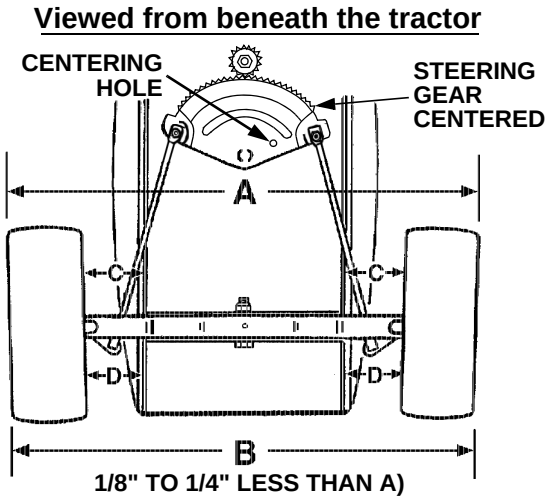

Figure 6-4
The front wheels should toe-in approximately 1/8 to 1/4 inch, as measured across dimensions A and B shown in Figure 6-4.
1. Check the steering gear to ensure it is in the centered position. The hole in the steering segment gear will align with the hole in the steering housing (See Figure 6-4). **NOTE:** A 5/16" pin can be used in the alignment holes to assure the steering segment is centered.
3. Measure the distance between the bottom edges of the tractor frame channels and the marks on the front of each wheel (See measurement D in Figure 6-4). These two measurements should be equal.
- Measure the distance between the frame and the marks on the rear of each front wheel (See measurement C in Figure 6-4). Measurement D should be approximately 1/16 to 1/8 inch less than measurement C on each side of the tractor.